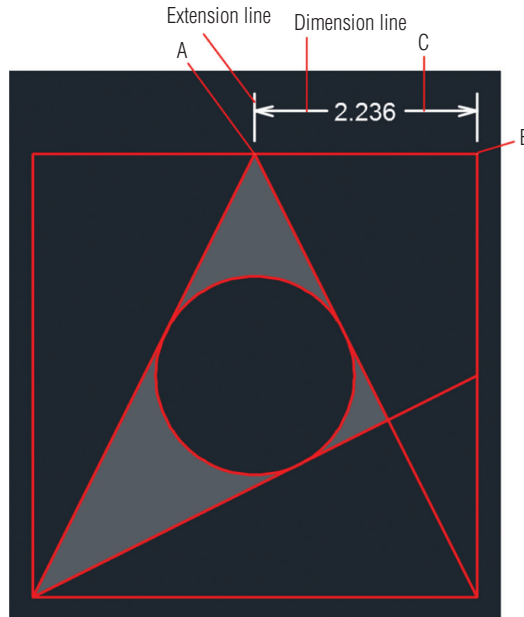

FIGURE 11.12 Creating a dimension by clicking three points
2. Click the Dimension tool on the Annotation panel. Click points A and B to specify the first and second extension line origin points, as shown in Figure 11.12. Click point C to specify the dimension line location.